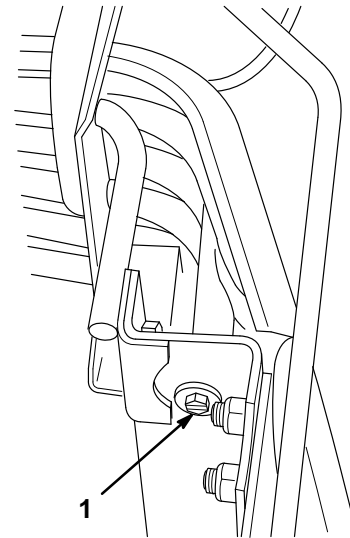

Figure 53
2. Remove the tractor's front grill by raising the hood and unscrewing the two screws and washers securing it in place (Fig. 53). Close the hood and remove the grill by pulling it out toward you.
7. Replace the front grill of the tractor, securing it with the two previously removed screws and washers (Fig. 53).
6. Replace the front grill of the tractor, securing it with the two previously removed screws and washers (Fig. 53).